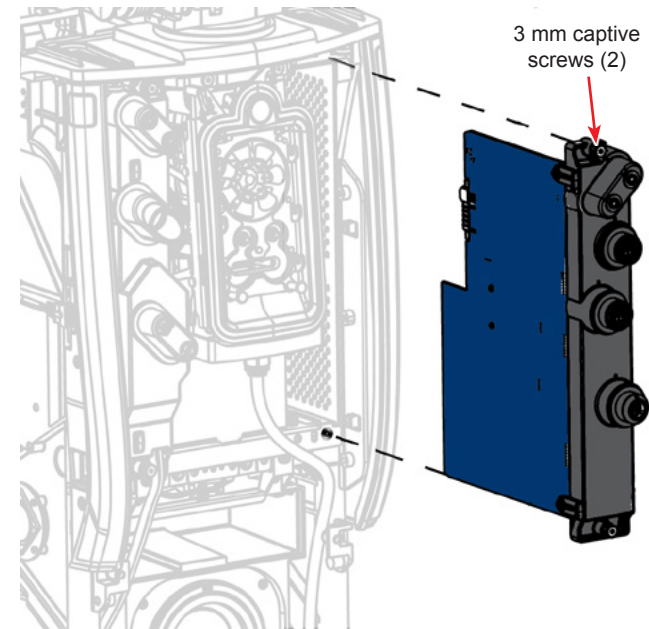

Figure 3-13 U/S PCB Assembly Removal
- 19.3 Pull U/S PCB Assembly straight out from console and remove (Figure 3-13).